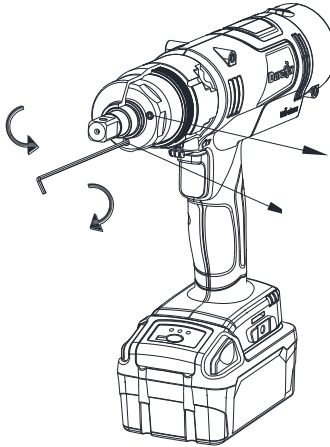

FIG. 4
3. Adjust the relief valve with Allen key (2.0mm) as the following FIG.4 to increase the oil pressure or decrease the oil pressure. Turn in clockwise smoothly for rise the torque; turn in counter clockwise for decrease the torque. Do not over-rotate the relief valve